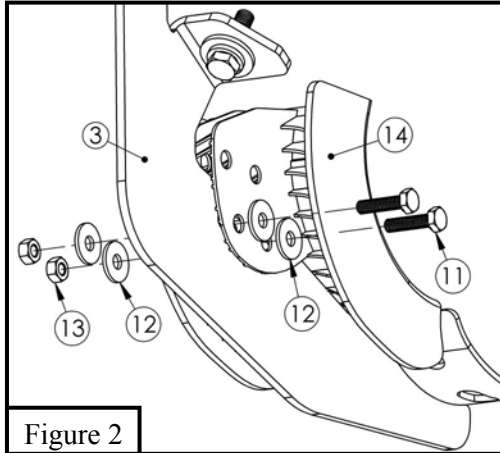

Figure 2
5. Locate (1) plastic bracket cover (Item 14) and loosely secure it to the (6) brackets using the provided hardware: (2) M6 hex head cap screws, (4) M6 flat washers, and (2) M6 nylon nuts. Repeat for every bracket. See **Figure 2**.